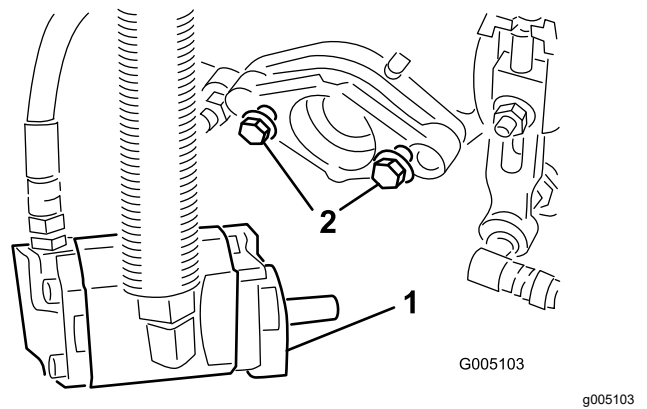

Figure 9
6. Ensure that there is approximately 13 mm (1/2 inch) of threads exposed on each reel drive motor mounting bolt (Figure 9).